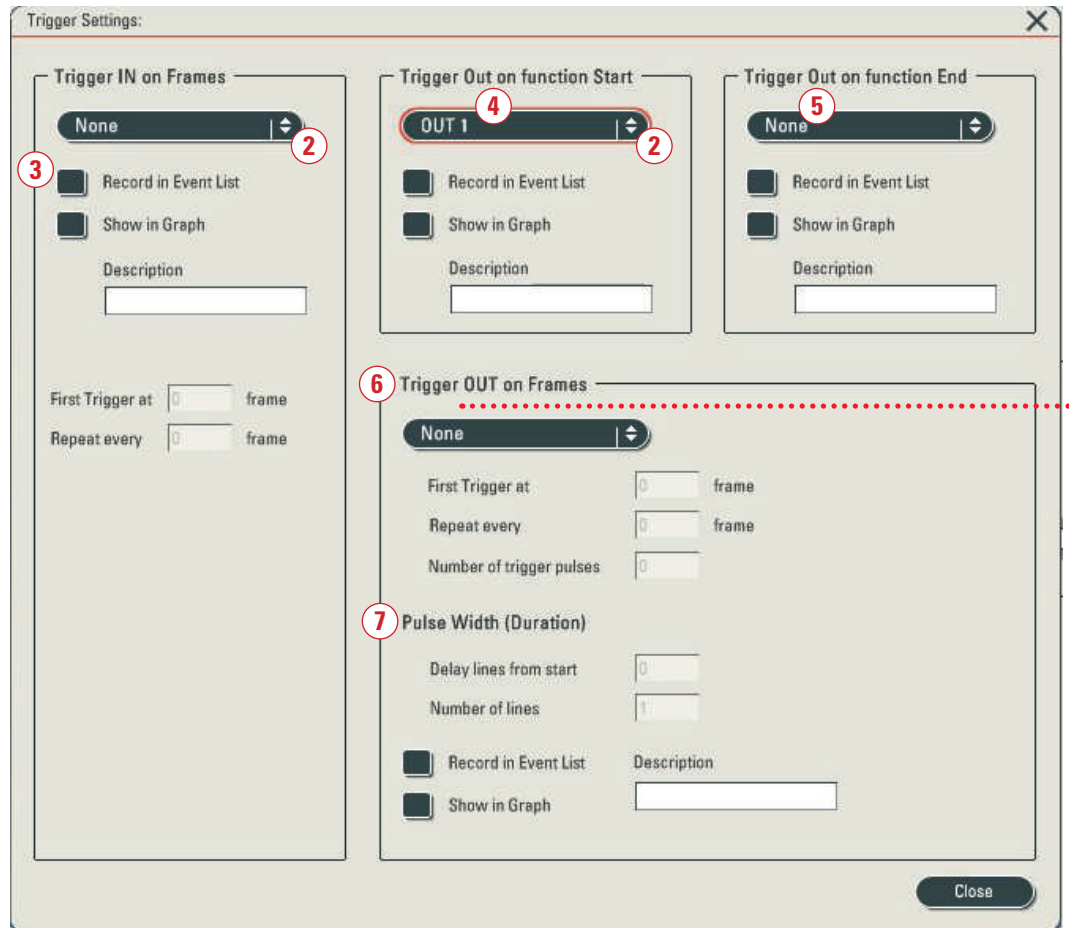

Figure 17: Job macro with activated out-trigger (OUT1) at the begin of Job 2
To assign an output trigger to a job the appropriate trigger channel from the drop down list (2) has to be selected (Fig.16). The defined trigger is indicated in the time line (Fig. 17).